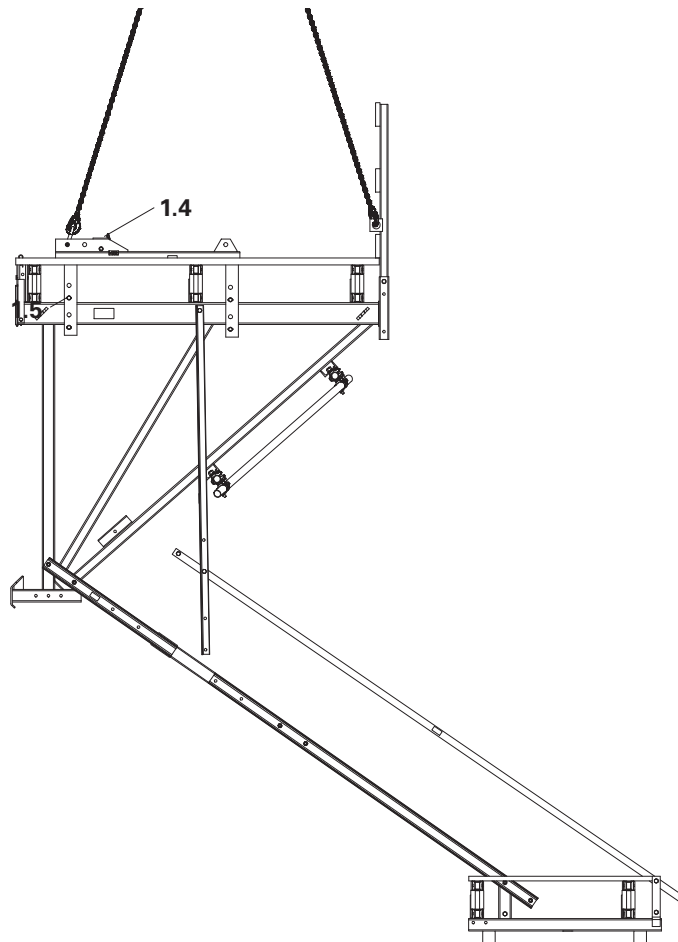

Fig. B1.45
4. Lift climbing scaffold out of anchoring and disassemble finishing platform. (Fig. B1.45)